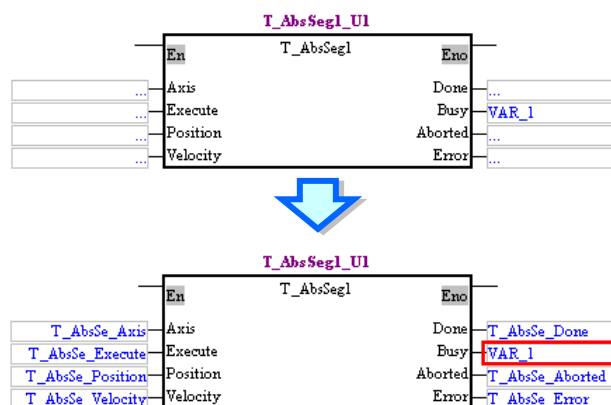

Figure 13-35 Automatically assigning default symbols to pins of a function block
- (3) If a symbol which has been declared is assigned to a pin of a function block, the symbol will be retained after **Generate by Default** is clicked, as shown in figure 13-35.